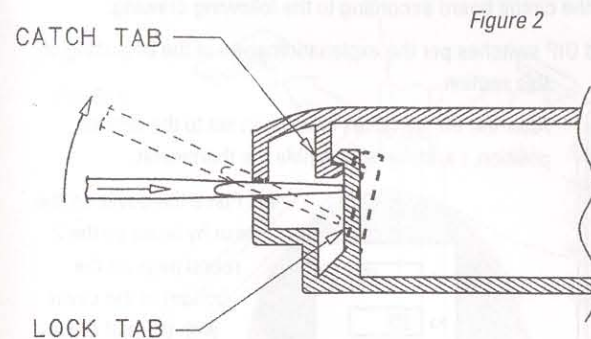

Figure 2
- Gently push in and pry up on the handle of the screwdriver until the lock tab disengages from the catch tab (you should feel or hear a click – see Figure 2).